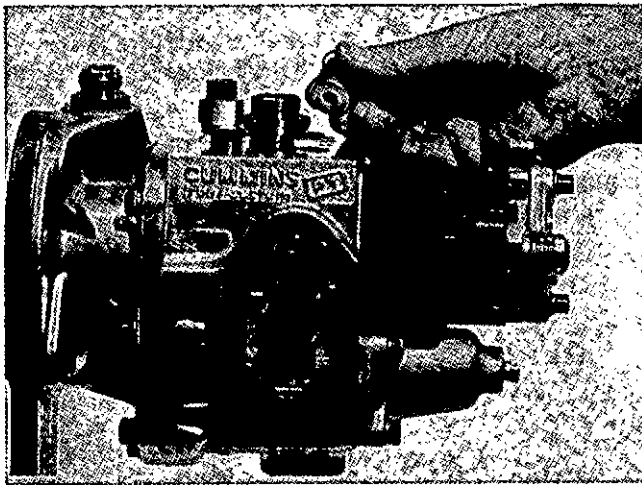

Fig. 8-2, (F557). Install the fuel screen in the standard housing.
1. Assemble the filter screen assembly into the top of the standard housing. The hole in the screen goes down, Fig. 8-2.